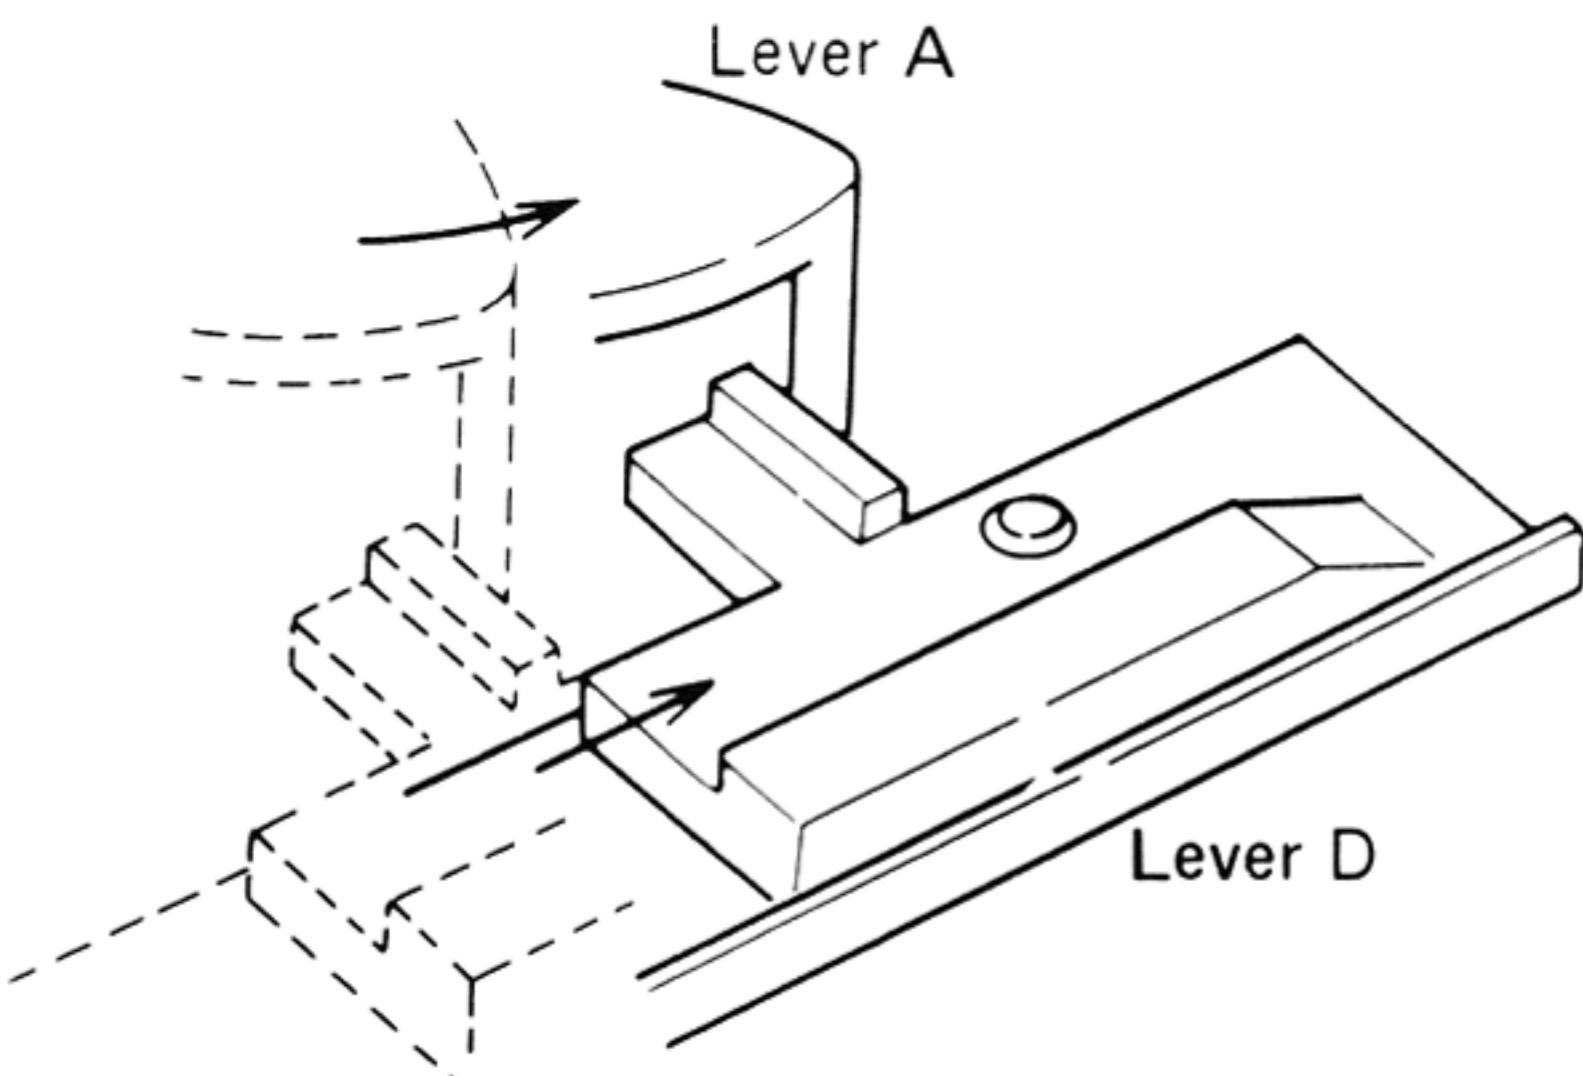

Fig. 6
3. Lever A is pushed and the tonearm is returned to the arm rest by lever D (Fig. 6).